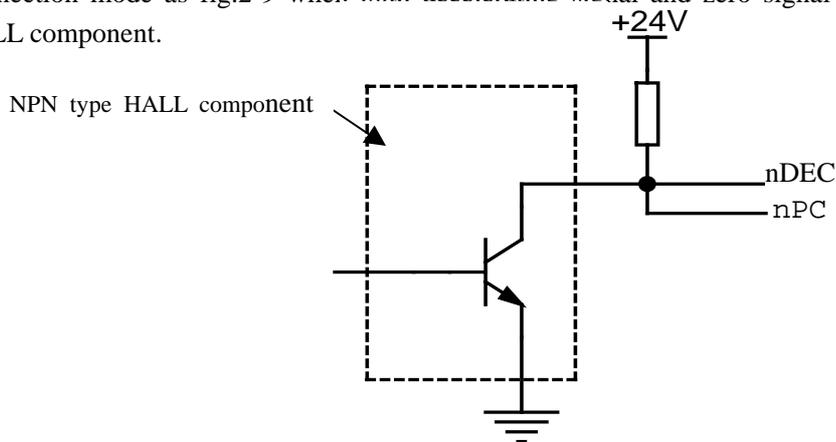

Fig.2-9 Connection of NPN type HALL component
b) Connection mode as fig.2-9 when both decelerating signal and zero signal are rooted in one NPN type HALL component.
c) Connection mode as fig.2-9 when both decelerating signal and zero signal are rooted in one PNP type HALL component .